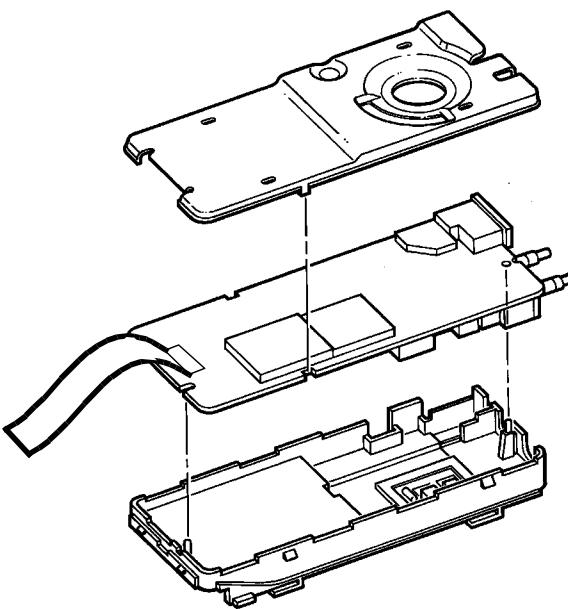

Figure 1-12. Align Pins
- Insert the flexible circuit tail end (marked "RF") into the ZIF connector on the RF board and lock the connector by engaging the latch (Figure 1-12).
- Insert main board into chassis using alignment pins as a guide (Figure 1-12).
- Place front shield on main board using tabs as a guide (Figure 1-12).